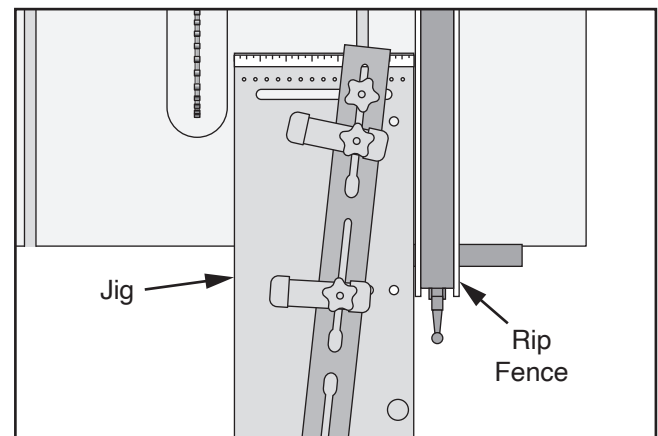

Figure 23. Jig against table saw rip fence (splitter blade guard removed for clarity).
5. Place jig against table saw rip fence (see **Figure 23**).